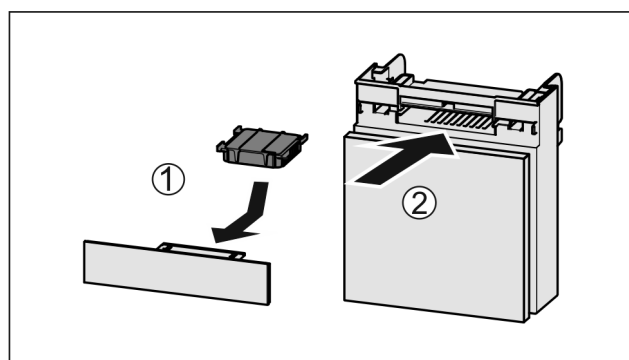

Fig. 143
- ▶ Insert the carbon filter as shown in the diagram Fig. 143 (1).
- ▶ Push the compartment in Fig. 143 (2).